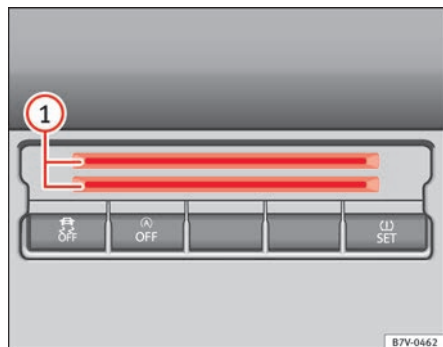

Fig. 106 Centre console, lower section: card compartment.
To the bottom of the centre console there is a compartment ⇒ fig. 106 ① for coins, cards, car park tickets and similar items.